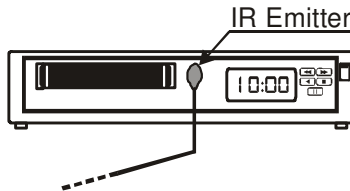

Figure 3: Connecting the IR Emitter
1. Connect the OUT², 3.5mm mini connector³ (from 1 to 4) to the following IR receivers⁴ via the IR emitter cable (see Figure 3):